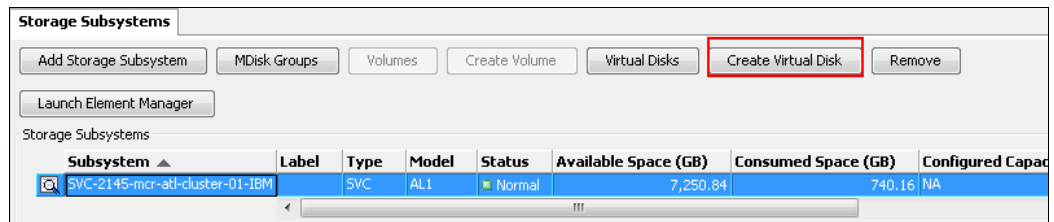

Figure 11-89 Action buttons
2. When you highlight the IBM Storwize V3700 system, action buttons become available that you can use to view the device configuration or create virtual disks, as shown in Figure 11-89.